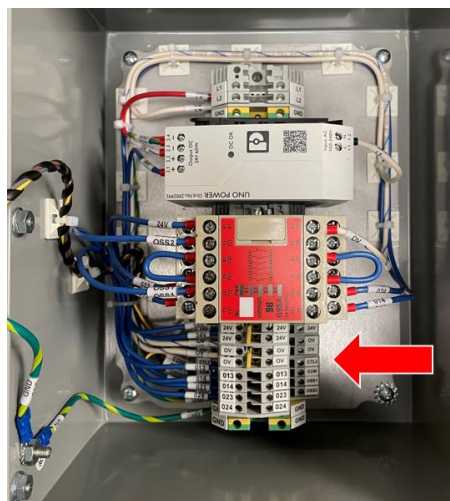

Figure 1-5. Shadow 9 Alternate Control Box: Internal View
3. Locate terminal strip for light curtain head, receiver and transmitter, in the alternate Shadow 9 control box (see *Figure 1-5*).